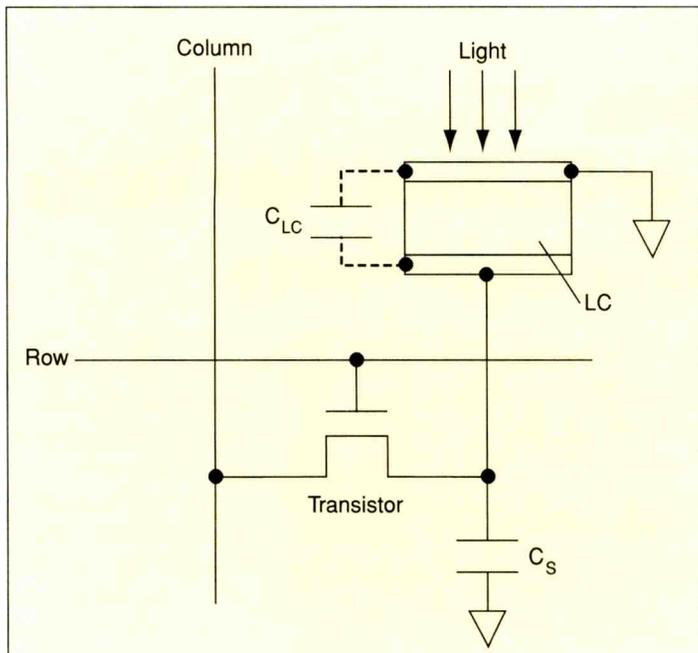

Figure 26. Active-matrix circuit for LCD.
begins to fail. Pixels that are supposed to be off turn on, and the contrast ratio is degraded. Active-matrix addressing solves this problem. As shown in Figure 26, at the intersection of each row and column electrode, a single transistor acts as an analog switch. One side of the transistor is connected to the column electrode and the other side to both a "storage" capacitor (CS) and to a liquid-crystal capacitor (CLC). The liquid-crystal capacitor is formed by the sandwich structure consisting of the address electrode, the liquid-crystal material and a grounded counterelectrode. The addressing circuit works in the following way. First, the column electrodes are charged to the desired analog voltage levels for a given line. Then the transistor switches for that line are turned on by the row electrode and the capacitors are charged to the analog voltage levels set on the column electrodes. After the switches in that row are turned off, those voltages remain stored until the next video frame, when the capacitors are recharged or refreshed to new analog voltage levels. Light leakage from the projection lamp can produce photogenerated leakage currents in the transistors. Leakage currents are also produced by the finite off impedance of the